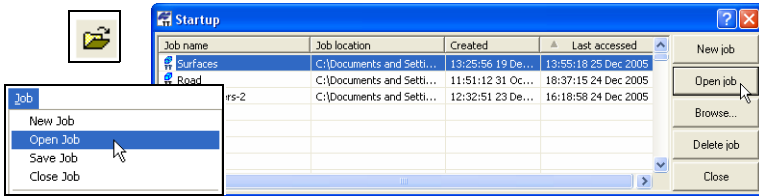

Figure 2-4. Ways to Open a Job
- To open a job, use one of the above techniques or click one of the following (Figure 2-4):